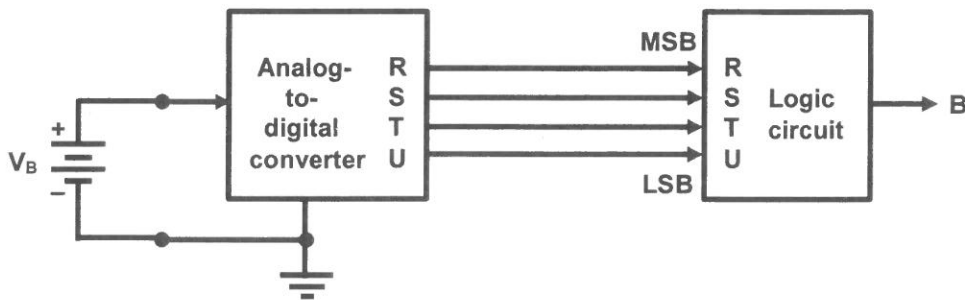

Figure 4(b)
- (b) Refer to Figure 4(b) where an analog-to-digital converter is monitoring the dc voltage of a 15V storage battery on an orbiting spaceship. The converter's output is a 4-bit binary number, RSTU, corresponding to the battery voltage in steps of 1V, with R as the MSB. The converter's binary outputs are fed to a logic circuit that is to produce a HIGH output as long as the binary value is between  $0100_2 = 4_{10}$  and  $1100_2 = 12_{10}$ ; that is, the battery voltage is maintained between 4V and 12V. Show all working steps.